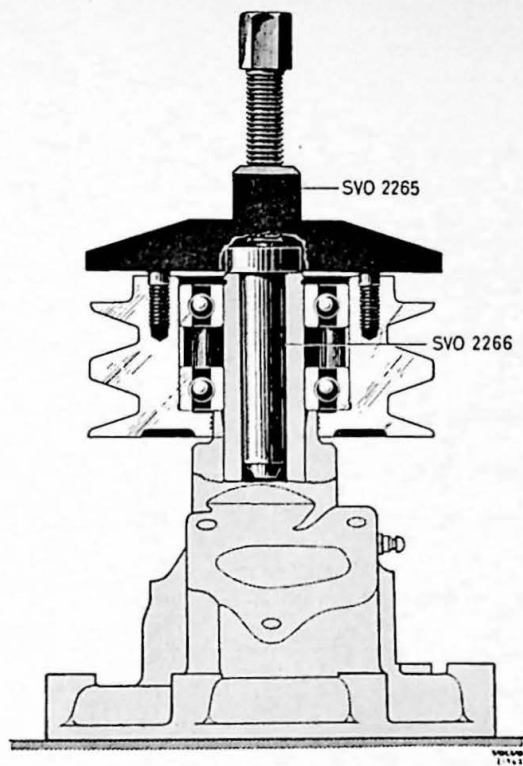

Fig. 1-135. Removing pulley.
5. Place tool SVO 2266 (see Fig. 1-135) in the extension of the pump housing bearing journal and fit puller SVO 2265. Pull off the pulley whereby the bearing and the spacer ring between the bearings will accompany it.